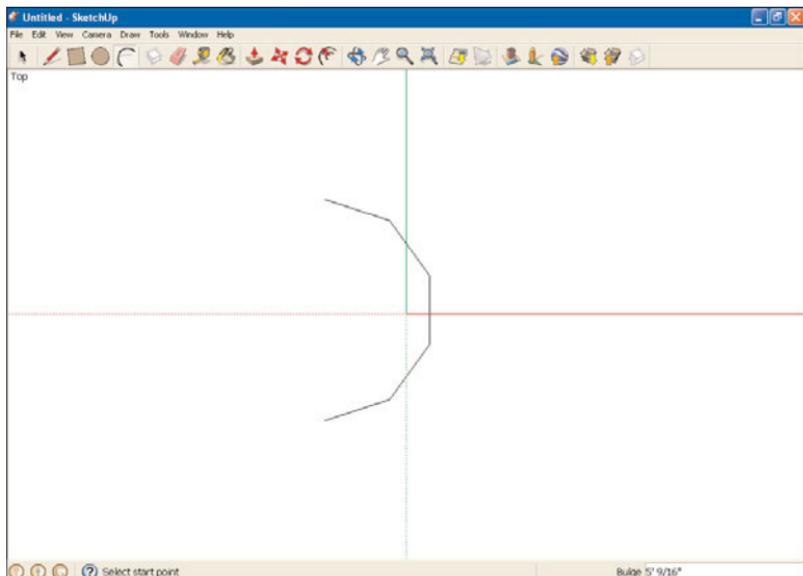

FIGURE 4.6 A five-sided arc.
9. Click the mouse. The arc becomes permanent. Figure 4.6 shows a five-sided arc.